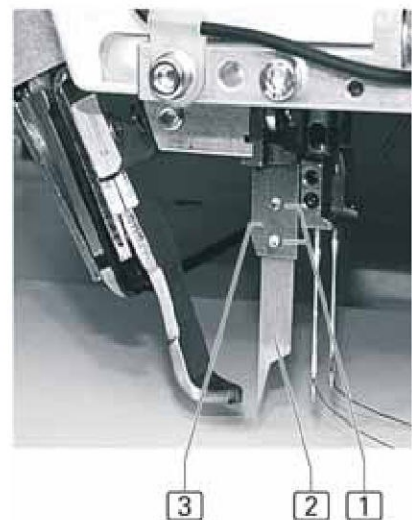

fig. 12
- 1 **fig. 12:** Loosen both screws **1**.